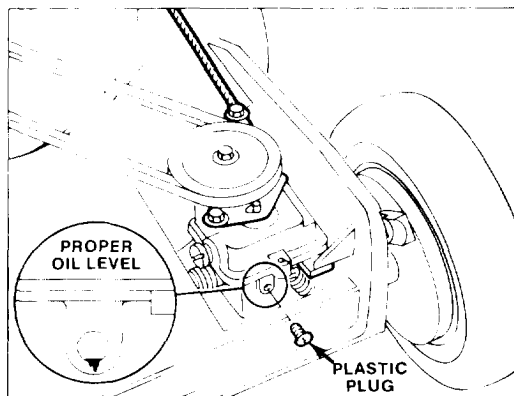

Figure 17
2. CHECKING GEAR OIL LEVEL (Fig. 17) — Position mower on level surface and clean around plastic plug. Remove plastic plug and watch for oil to ooze out of hole. If gear oil oozes out, quickly install plastic plug because oil is at proper level. If oil does not flow, add gear oil: see step 3.